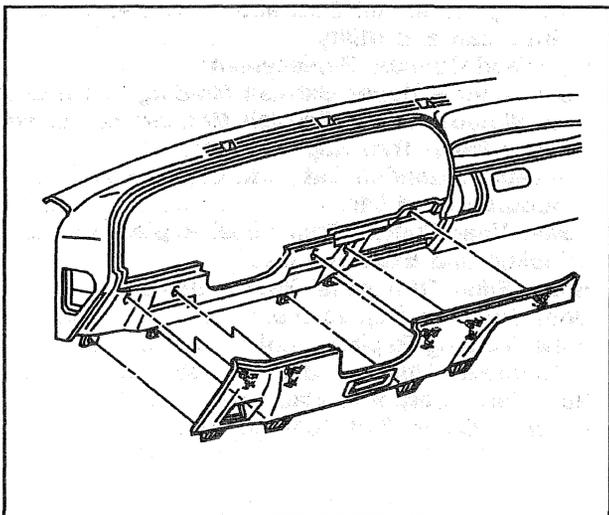

Figure 3—Knee Bolster
9. Four lower bolster screws (figure 3).